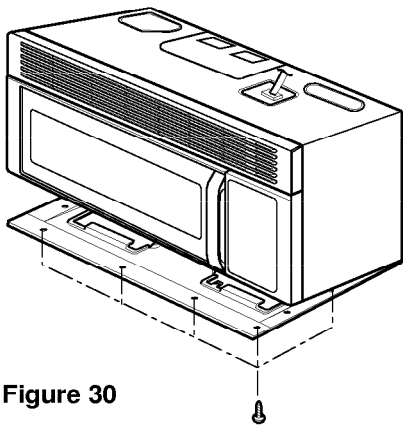
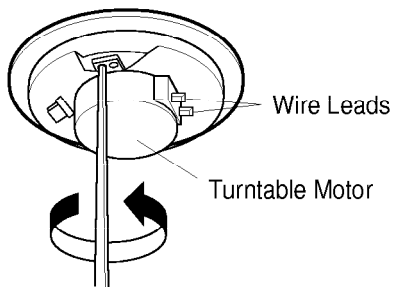

Figure 30
Figure 31
- (3) Remove the base plate by removing 6 screws securing it to the oven cavity. (Figure 30)
- (4) Disconnect the leadwire from the turntable motor terminals.
- (5) Remove the 2 screws securing the turntable motor to the oven cavity ASS'Y. (Figure 31)